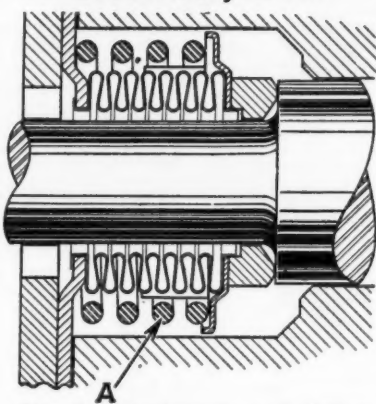

Fig. 19. Stationary seal design. "A" indicates spring.
Fig. 19 illustrates a later design of the stationary seal, with the spring (A) on the outside of the bellows. This design eliminates the possibility of seal squeaks due to the spring rubbing on the shaft.